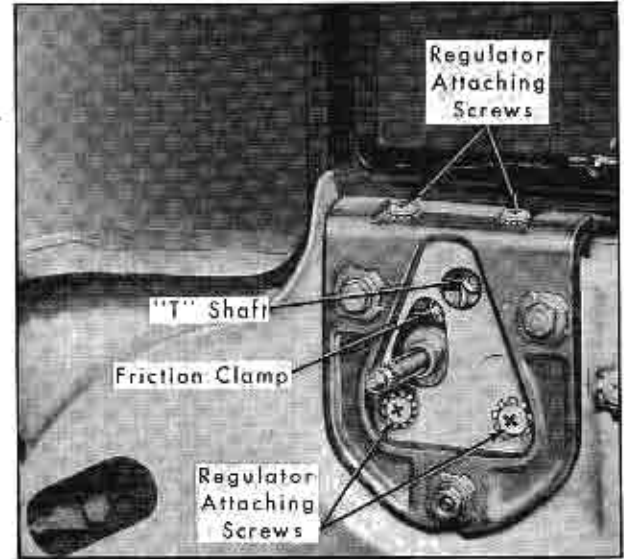

Fig. 3-35 Ventilator Regulator Removal (6237)
2. Remove the regulator attaching screws Fig. 3-35.
lator attaching screw, Fig. 3-35.